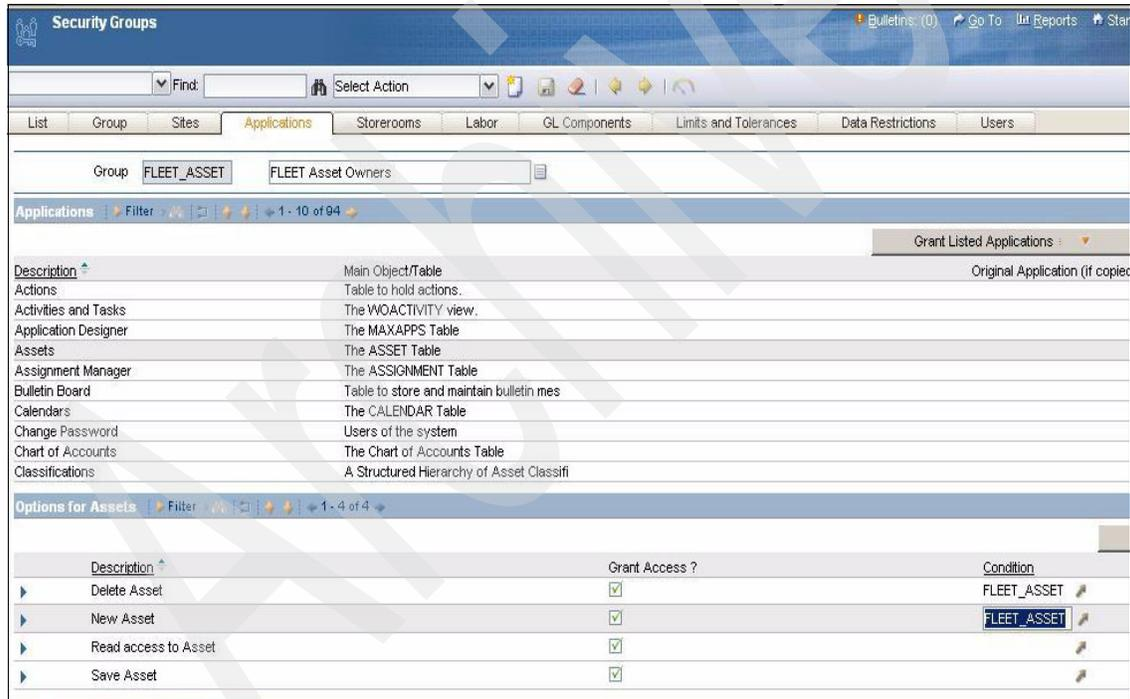

Figure 8-8 Conditional Option access
8. Select the condition for New Asset as FLEET_ASSET (see Figure 8-8).